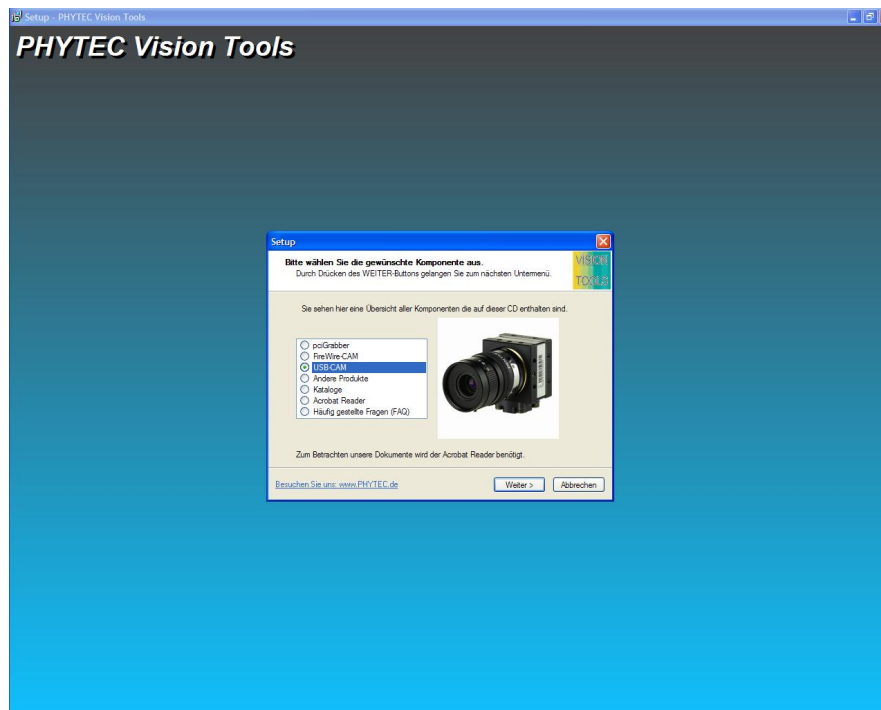

Figure 16: Title Menu of the, Vision Tools' CD
- The CD should start automatically, bringing up the title menu (*Figure 16*). If the CD doesn't start automatically: open the content folder of the CD (from your desktop or using Windows Explorer) and double click on *start.exe*.